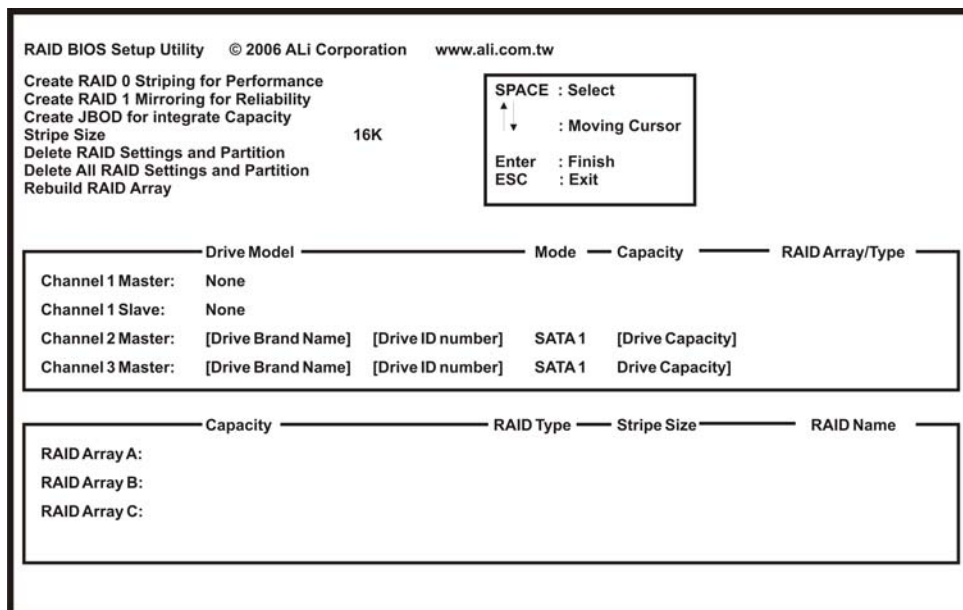

Figure E-2: RAID BIOS Setup Utility
**Step 9:** Delete RAID settings and partitions. The RAID BIOS Setup Utility in FigureE-2 appears. Before configuring the array select the “Delete All RAID Setting & Partition”.